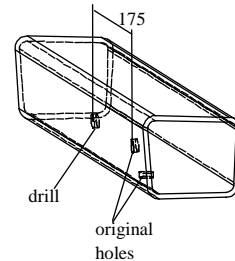

Fig. 3
3. Position the left bracket (pos. 5) to the drilled holes in the left chassis member and element (pos. 4) to the drilled holes in the right one and fix it together with fish-plates (pos. 6 and 7) (Attention!!! Fish-plates 6 and 7 put inside the chassis members).
4. Position the main bar of towing hitch (pos. 1) and fix it using bolts M12x40mm (pos. 11) and together with jibs (pos. 8 and 9) using bolts M10x35mm (pos. 12).
5. Cut the metal support according to the fig. 3 and then reassemble it.